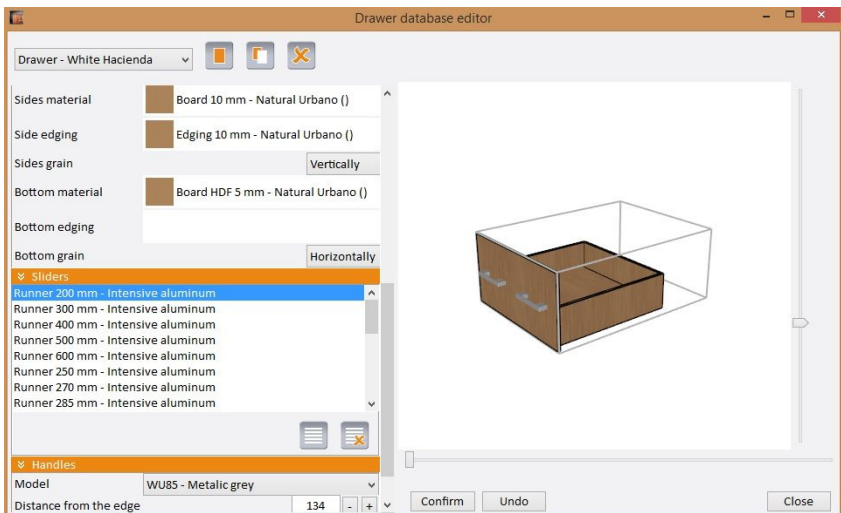

Fig. 51 - Drawer editor - creating a new drawer - collapsed 'View parameters', 'General', 'Front' and 'Case' panels
- **'Price' panel** - here you determine the cost of installation as a percentage (Fig. 51).